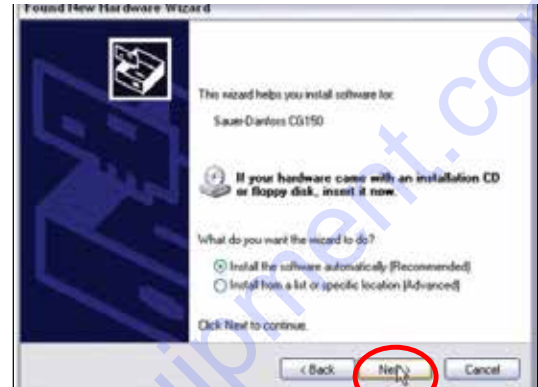

Figure 19. CAN Driver Installation
4. When the CAN Gateway cable is connected to the laptop for the first time, it is necessary to install the CAN driver software. The installation screen will appear (Figure 19). Click "Next" to install the software automatically (default).